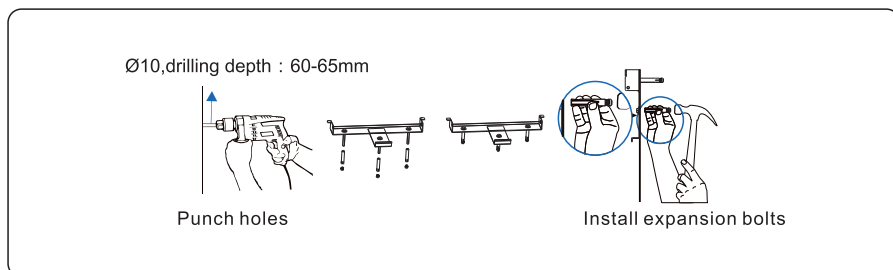

Figure 4.12 Punch holes and install expansion (unit: mm)
**Step 4** Drill holes using a hammer drill and install expansion bolts, as shown in Figure 4.12.